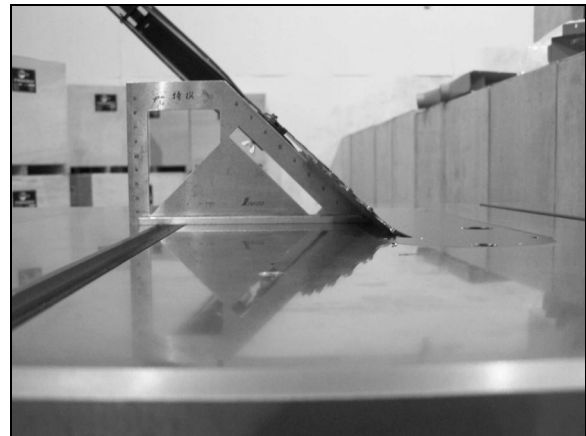

Figure 12
1. Using a 45 gauge as shown in figure 12, tilt the blade until it makes contact with the gauge making sure the gauge does not hit the saw teeth.